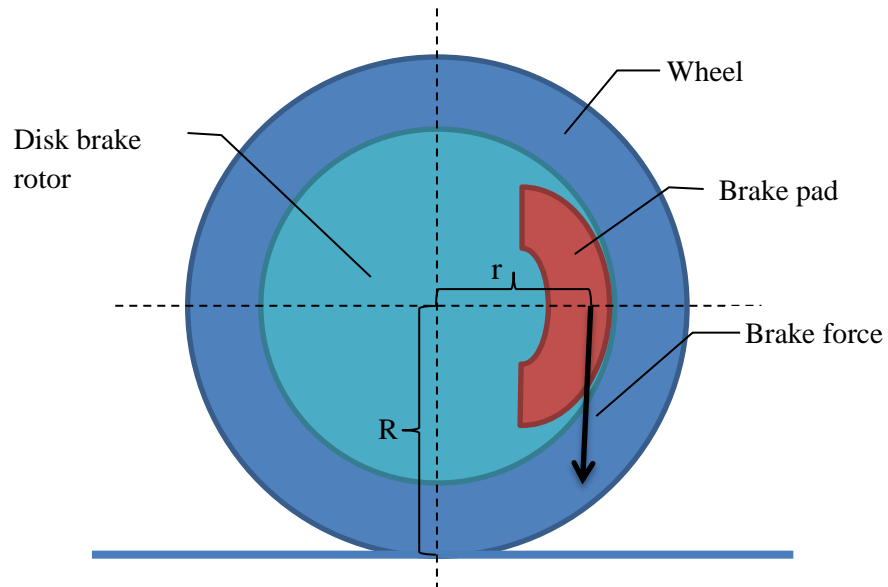

Figure 20.3. On braking force radius ratio ( $r/R$ ) definition
radiusratio	Ratio (r/R) of the arm of braking force (r) to the wheel radius (R). It is applicable for disk brakes only. It is 1 for shoe brakes. See Figure 20.3 for details.